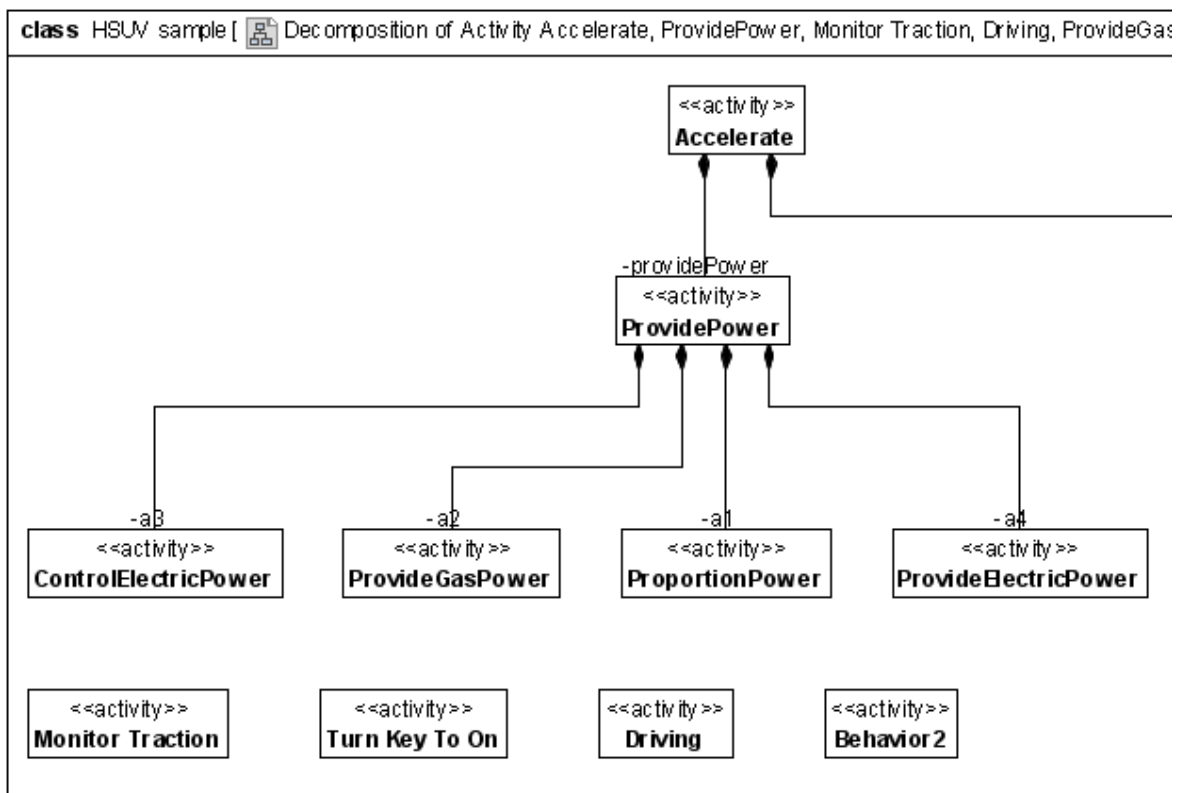

Figure 188 -- Class Diagram of the Decomposed Activities
6. The Class Diagram will then be generated (Figure 188).